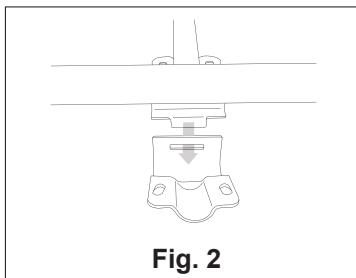

Fig. 2
2. Insert the lift bar tabs into the brackets. (Fig. 2)